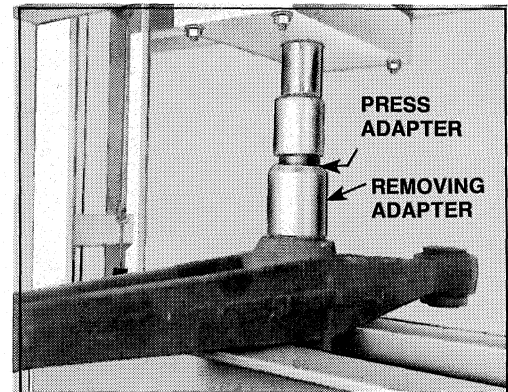

FIGURE 1
- Place the equalizing beam in a shop press as shown in Figure 1. Position the proper Removing Adapter (Item 2 for the 34,000 lb. axle or Item 4 for the 38,000 and 44,000 lb. axle) over the bushing to be removed. Place the Press Adapter (Item 6) on top of the removing adapter (See Figure 1).